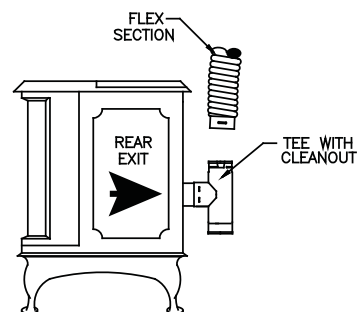

Figure 22
9. If a Tee or Tee Adapter is necessary to make the connection, as shown in (Figure 22), the Tee has a removable Clean out Adapter on its base to enable cleaning. Ensure Tee is adequately supported.